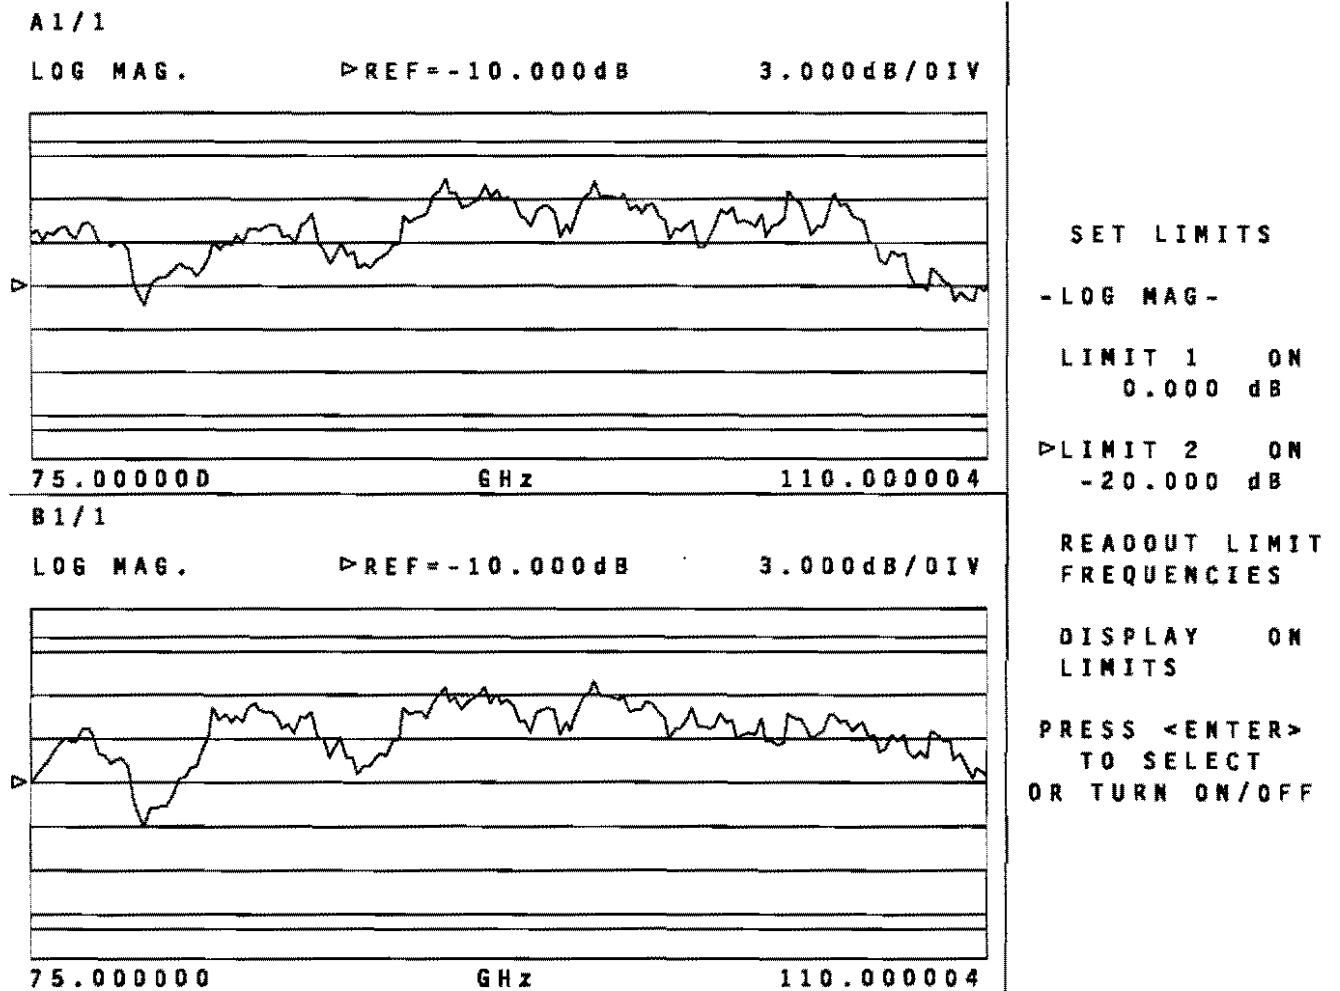

Figure 3-10. Non-Ratioed Power Level Test Dual Channel Waveform for a 3640B-X Module
- Step 2.** Verify that the measurement traces fall within the limit line (Figure 3-10).